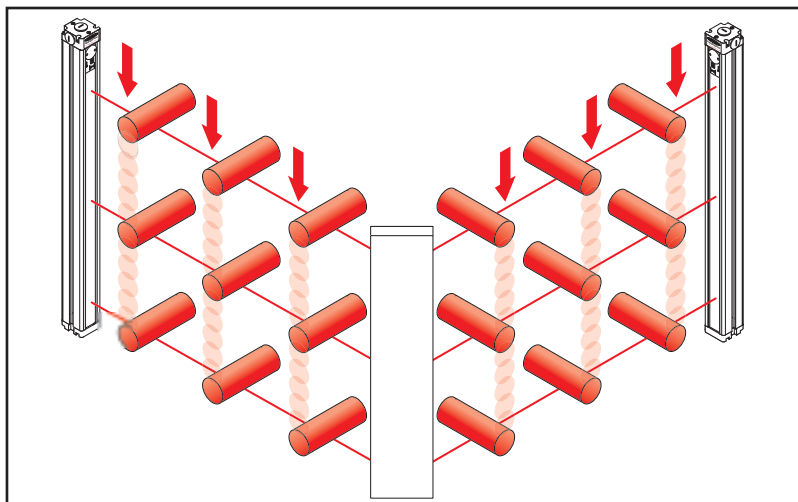

Figure 2. EZ-SCREEN Grid System trip test for corner mirror applications
- If corner mirrors are used in the application, the beams must be tested at three points on *each leg of the beam path* (between emitter and mirror, and also between mirror and receiver, as shown in Figure 2).